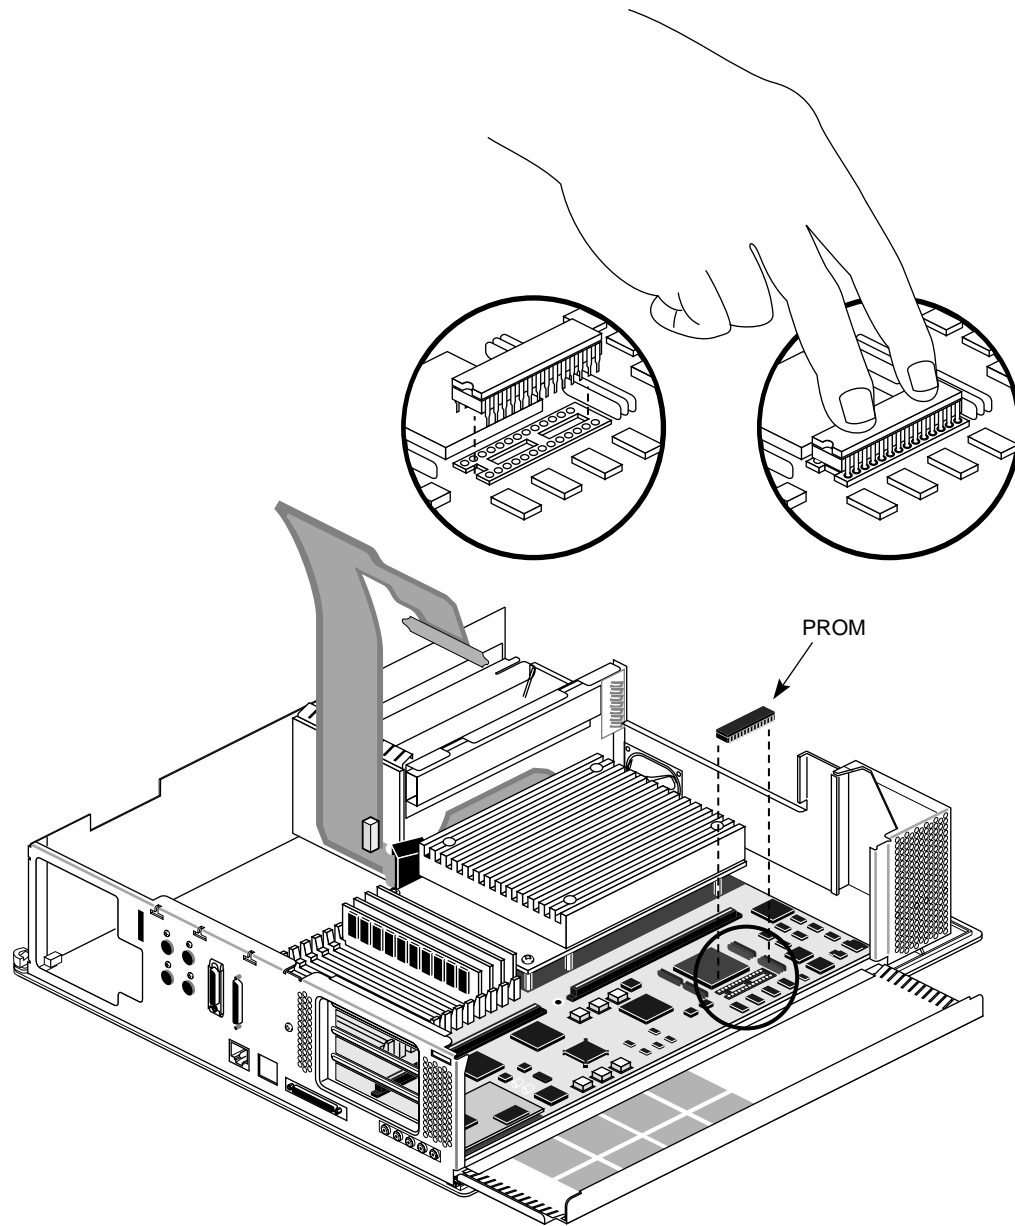

Figure 2-11 Aligning and Installing the New PROM on the System Motherboard
1. Install the new PROM on the system motherboard. See Figure 2-11.